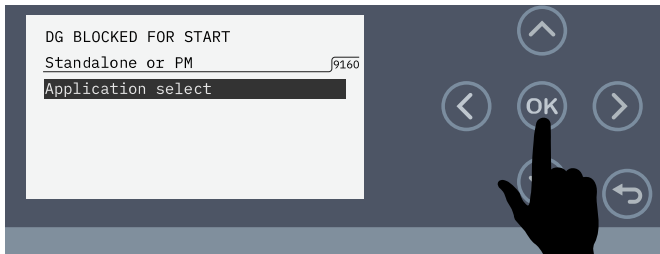

Figure 109. Select Application Select
6. Make sure **Application Select** is highlighted (Figure 109), then press the OK button.